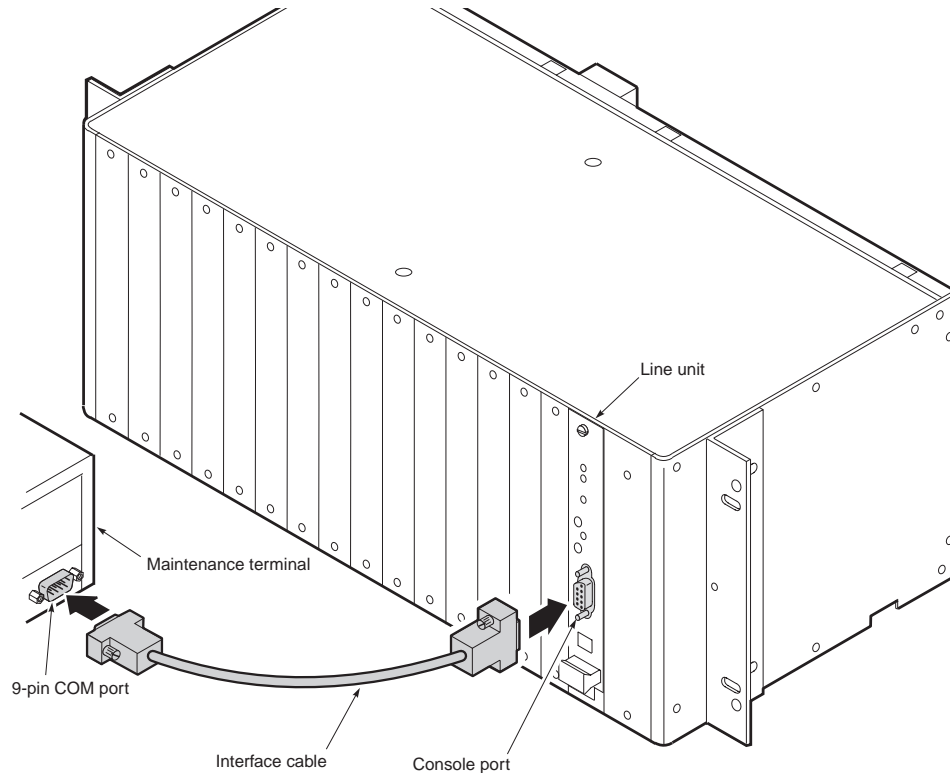

Figure 13. Connecting a Maintenance Terminal to a Line Unit
- 1 Connect a serial cable from the maintenance terminal 9-pin COM port to the line or desktop unit console port connector (Figure 13). Ensure the Data Terminal Ready (DTR) signal from the terminal is connected as the HDSL card will not communicate without it. Data Terminal Ready (DTR) may also be asserted by connecting the DSR output signal (pin 6) to the DTR input (pin 4).